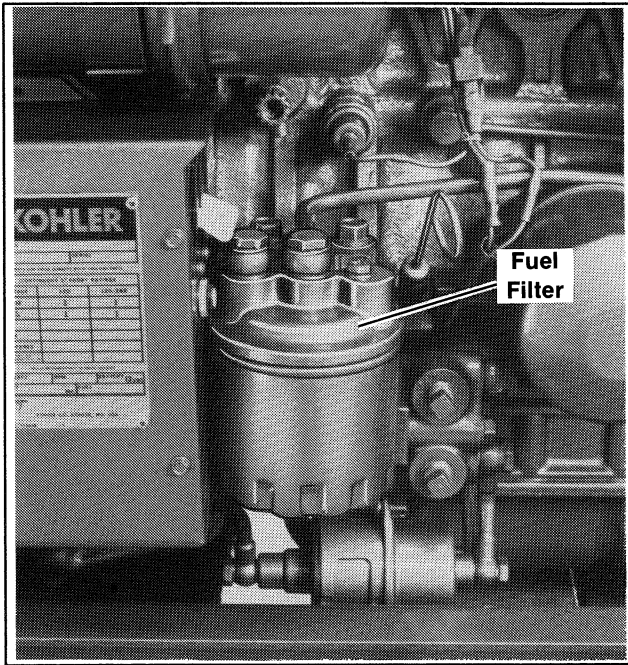

Figure 3-1. Fuel Filter- Yanmar
1. Loosen fuel filter by turning in a counter-clockwise direction. Figure 3-1. Use rags to clean up spilled fuel oil. Remove and discard.